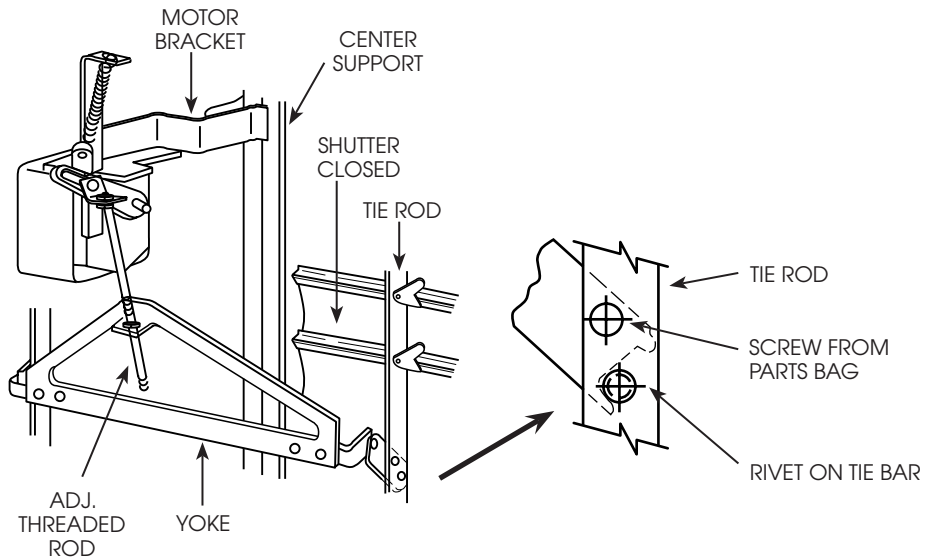

Figure 5
2. Attach yoke assembly to tie rods as shown in Figure 5, using screws from parts bag.
4. Install assembled motor and bracket to shutter as shown in Figure 5, making sure bracket is aligned on center support.